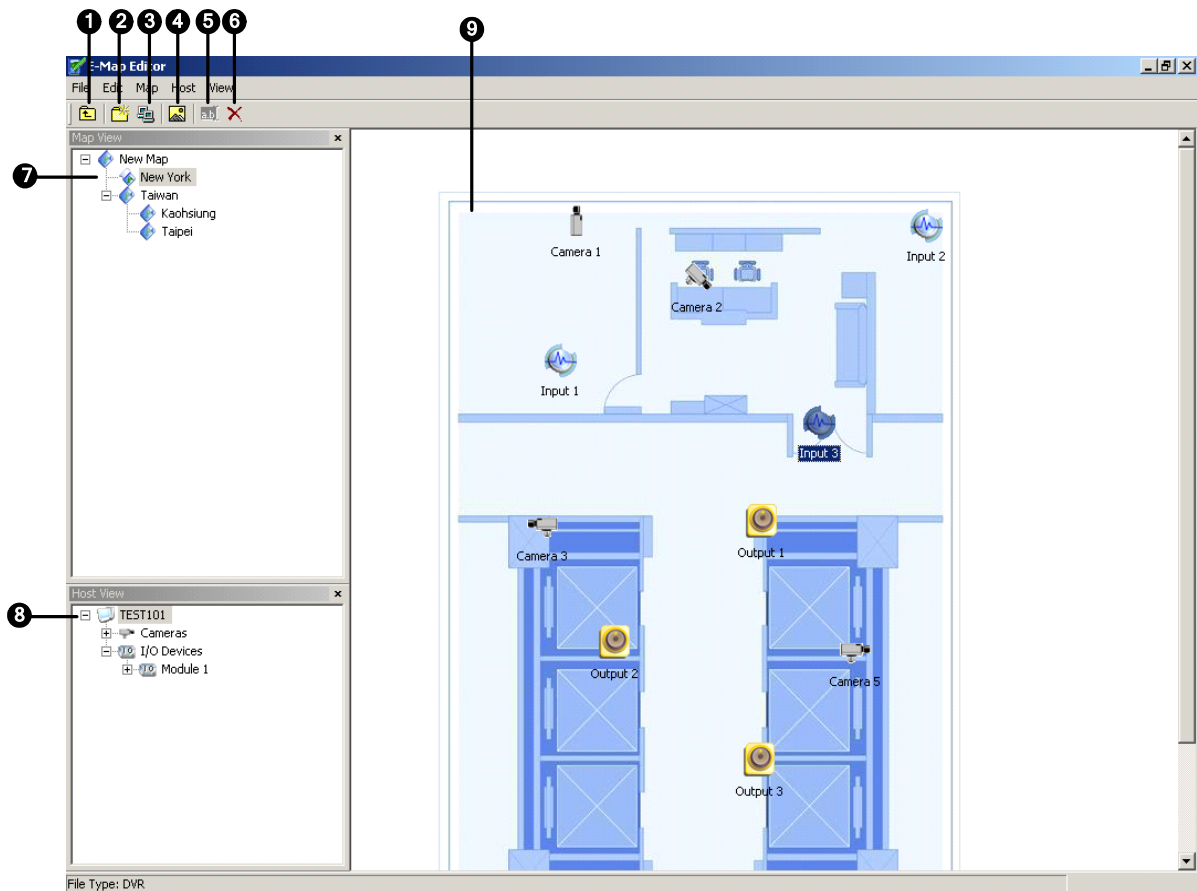

Figure 7-1 The E-Map Editor Window
1. Click the **Add Map** button (No.2, Figure 7-1) on the toolbar. A New Map file will be created in Map View and the Floor Plan window separately, as illustrated below.
2. Click the **New Map** file in Map View, and then click the **Load Map** button (No. 4, Figure 7-1) to import a graphic file. The file will open in the Floor Plan window (Figure 7-1).
1. Click the **Add Host** button (No. 3, Figure 7-1) on the toolbar. A new host folder then is added in Host View.